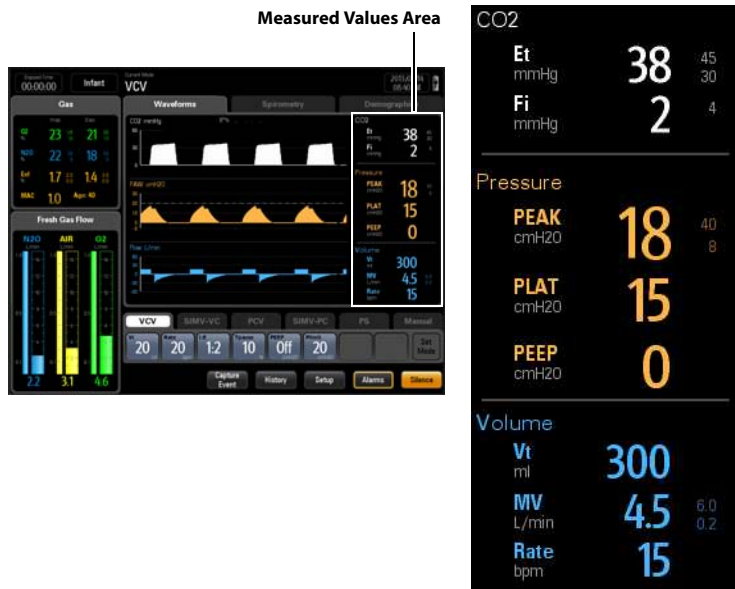

FIGURE 3-27 Measured Values Area (no AG module connected)
The Measured Values area is used to display the numerical data. The parameters include: End tidal CO₂(with AG module connected), Fractional CO₂ (with AG module connected), Peak Inspiratory Pressure (PEAK), Plateau Pressure (PLAT) (user can configure this to display Mean Pressure (MEAN) or PLAT (see "Pressure Display" on page 3-32)), Positive End Expiratory Pressure (PEEP), I:E Ratio, Expiratory Tidal Volume (Vt), Expiratory Minute Volume (MV),and Breath Rate (Rate), and Inspiratory O₂% (FiO₂). (FIGURE 3-27)